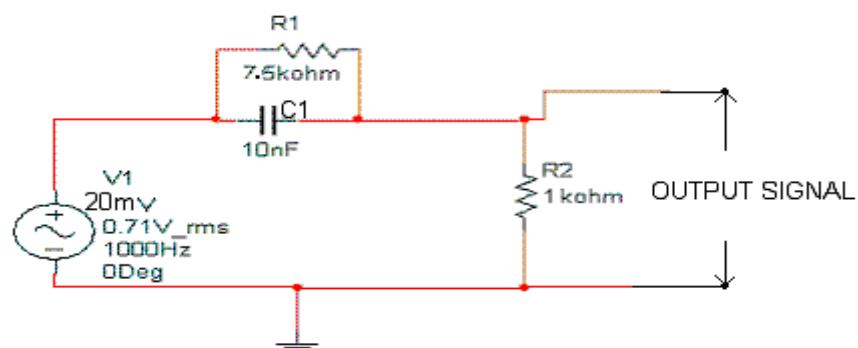

Fig.1. Pre-emphasis circuit
1. Connect the circuit as per circuit diagram as shown in Fig.1.